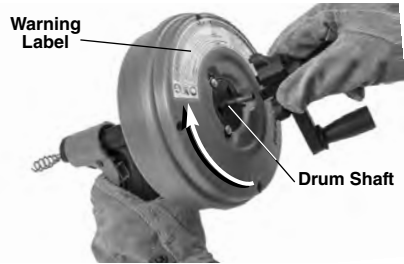

Figure 2 – Removing Crank Handle From POWER SPIN+
- Presence and readability of the warning label (see Figure 2.)
7. If using the POWER SPIN+ with a battery powered drill, remove the crank from the back of the drum by pressing the tabs on the either side (See *Figure 2*). Securely attach the chuck of the drill to the drum shaft.
7. Turn the drum clockwise (as marked with an arrow on the back of the drum, see *Figure 2*) and squeeze the drain cleaner trigger. Squeezing the trigger advances the cable into the drain.